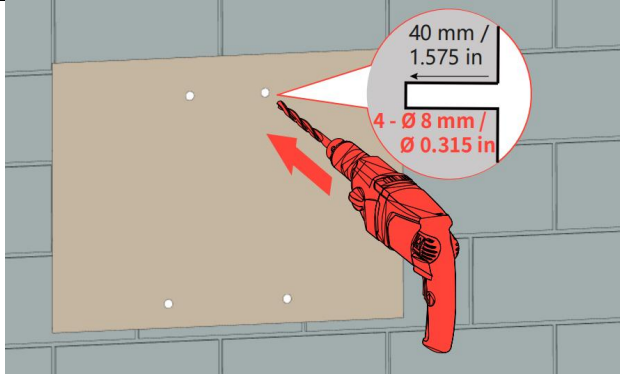
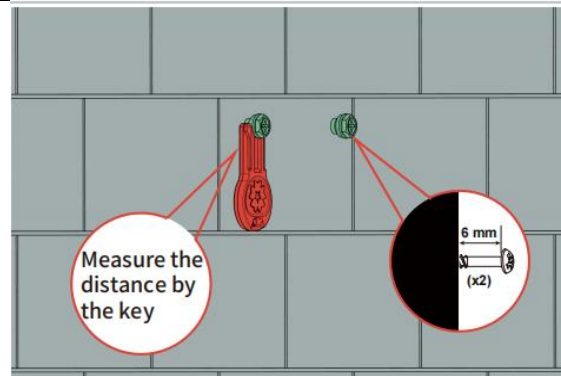

Fig. 4-4 Mark mounting holes
Fig. 4-5 Installing expansion screws
2. Use a $\Phi 8$ drill bit to make 4 holes with 40mm deep on the wall, and insert 4 $\Phi 8 \times 60$ expansion tubes, then put two self-tapping screws into the upper two expansion tubes (note: the top two self-tapping screws flange end distance is reserved about 6mm distance from the wall, which can be measured or calibrated by the auxiliary key for cover opening). as shown in Fig. 4-4 and Fig. 4-5.